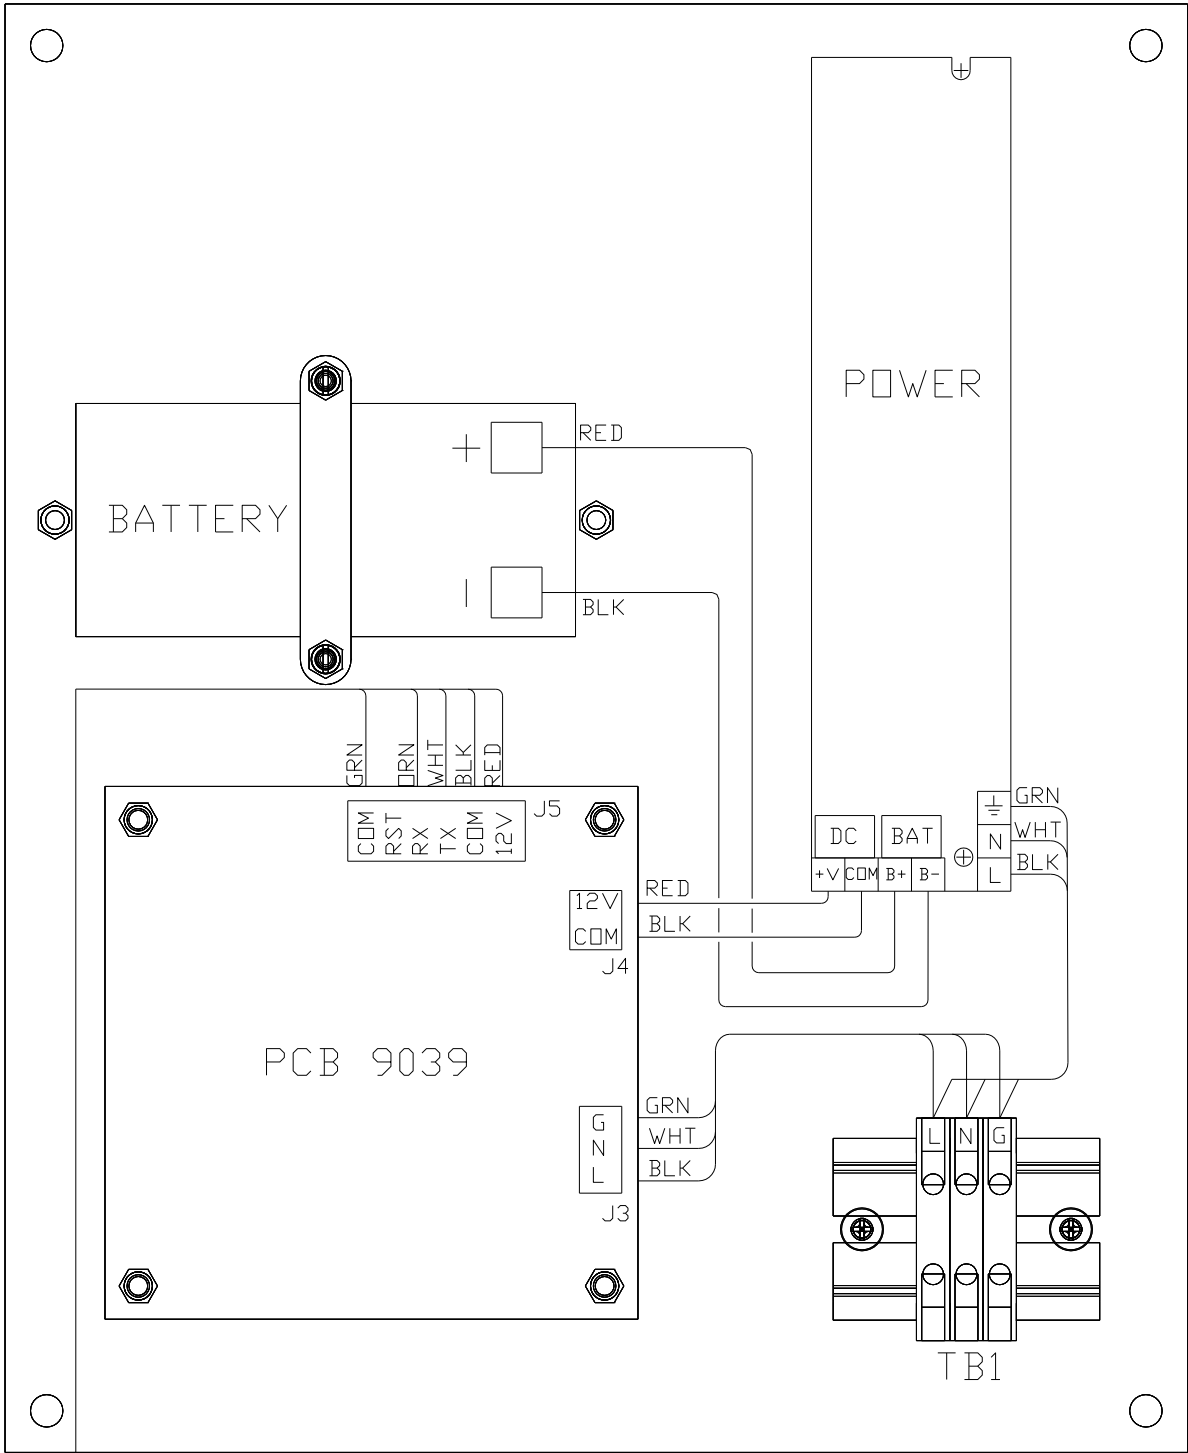

Figure 1-1 – FTW 171-3 / 172-3 MSAT Internal Wiring and Component Layout
The component layout and internal wiring of the units are shown in Figure 1-1. The dry contact inputs are located on J2 of PCB 9039 as shown in Figure 4-5.
Flash Technology has provided the cable and pre-attached it to the satellite modem; you must route the cable and connect it to the FTW17X-3 MSAT unit. The cable contains six (6) wires, five of which must be connected to J5 on PCB 9039. Refer to Figure 1-1 and 4-5. The blue wire will be used to aim the antenna.